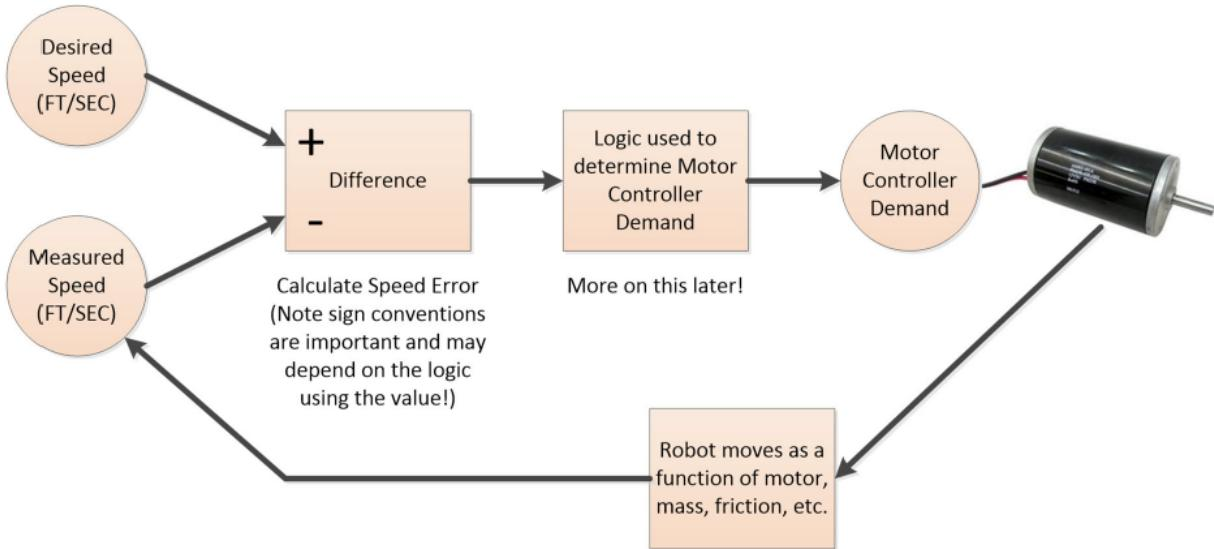

FIGURE 7.3 Block diagram of robot drive using closed loop control.
The function diagram, Fig. 7.3, for closed loop control shows that an output demand is calculated from the control error, calculated as setpoint (SP) minus process variable (PV). The equation for closed loop control is: